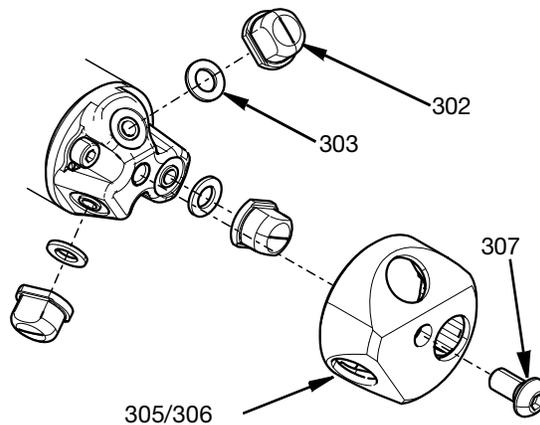

FIG. 12
- a. Remove the nozzle cap (305/306) with attached nozzles (302) by removing the M6 button head screw (307).
- b. Nozzle packing (303) can then be removed. See FIG. 12